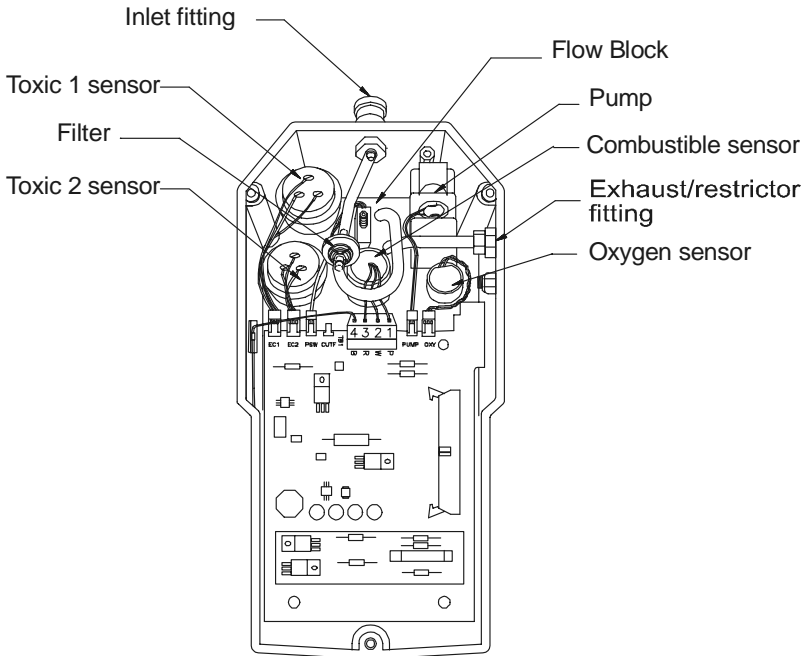

Figure 6-1 GT Series Sensor Locations and Connection Assignments
This section includes procedures to remove and replace the sensors, batteries, pump, and filters. See Figures 6-1 and 6-2, where appropriate, when performing the following procedures.
3. Locate the sensor you want to replace in the flow block (see Figure 6-1).
Figures 6-1 and 6-2 illustrate sensor assignments for the GT 402. The sensor assignment for your GT may be different depending on the GT model you are using. Empty sensor cavities are filled with sensor plugs for models that have less than four sensors.
2. Locate the pump in the flow block (see Figure 6-1).
2. Locate the internal filter (see Figure 6-1). It is connected to the inlet fitting by a small polyurethane tube.